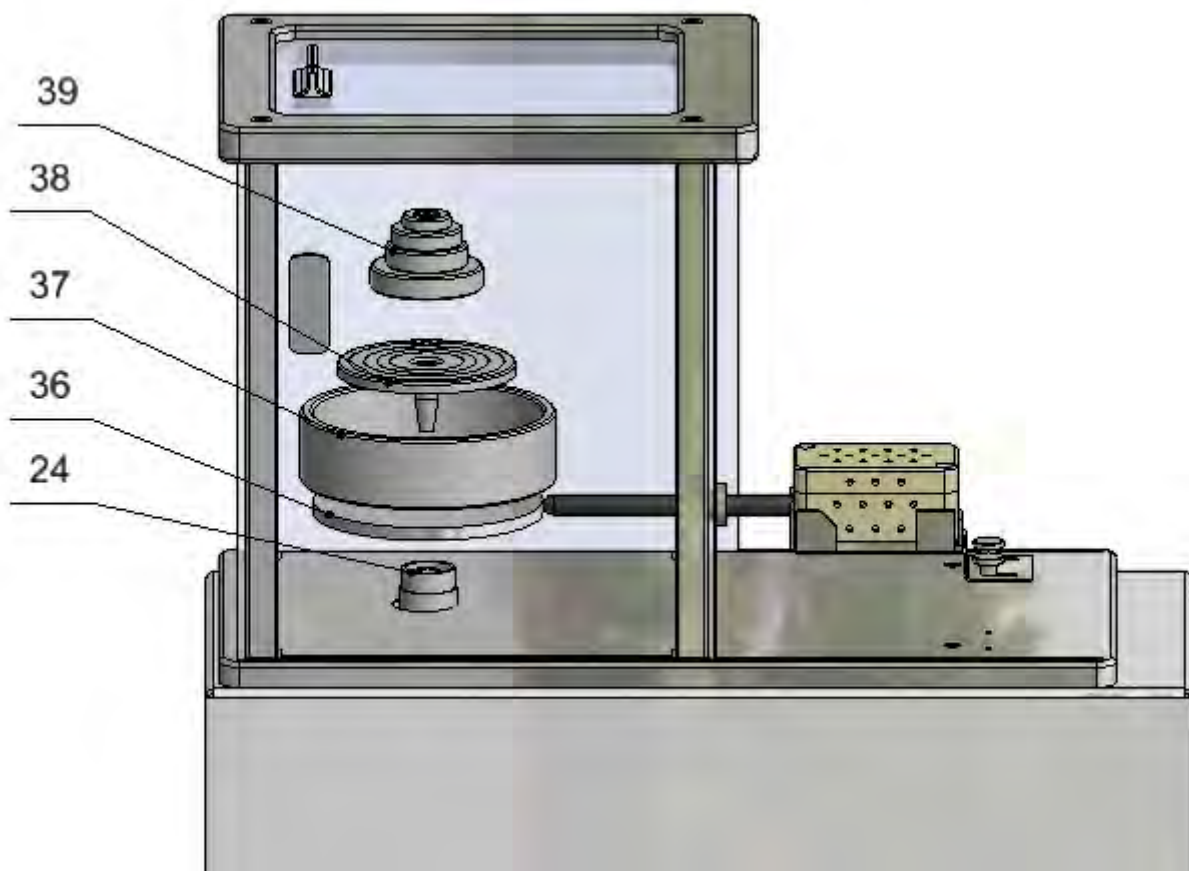

Fig. 11
28.1. Assembly a draft shield of a weighing pan (36), apply a pan shield (37) onto it, next apply a weighing pan fixed to a mandrel (38) onto a vertical rocker extension (24). If there is such a need apply a ballast set (39). (Fig. 11)